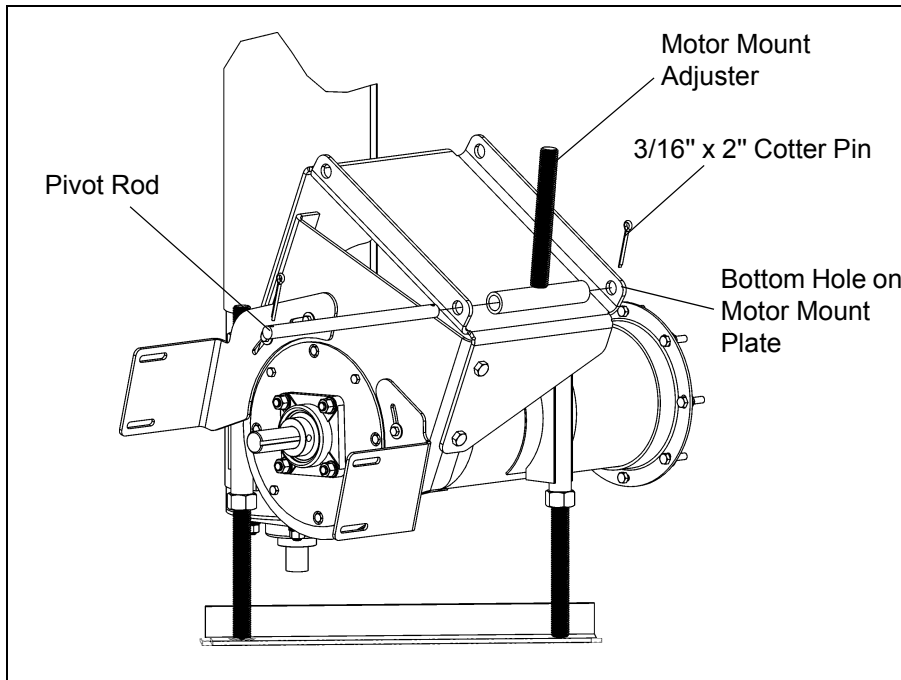

Figure 40
- B. Loosely bolt the Brackets to the Head Plate using four (4) 5/16" x 1" Hex bolts, flat washers, and Serrated Flange nuts.
- B. Insert the Pivot Rod through the Front Bottom pivot hole, the Motor Mount Adjuster, and the Back Bottom pivot hole. Secure the Pivot Rod in place with two (2) 3/16" x 2" Cotter pins. (See Figure 40)